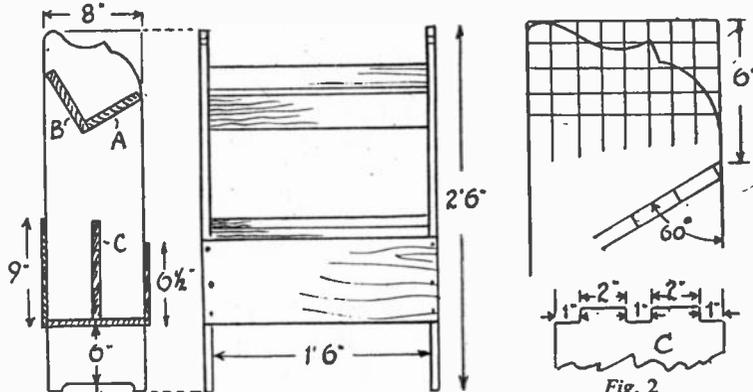
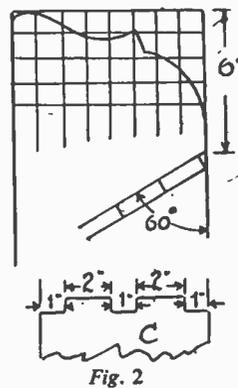
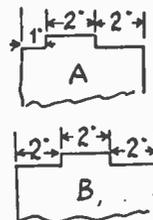

Fig. 1
Fig. 2
Fig. 3
Construction is quite simple, and within the scope of any handy woodworker. A side section and front elevation are given in Fig. 1, with dimensions. Cut the two side pieces to length and width given, and shape up the top and bottom parts. The top part is shown enlarged, and over 1 in. squares, in Fig. 2, so that copying the shape is rendered easier. About the best plan is to draw the squares on stout paper, trace the design, and cut out. Then the pattern can be laid on each side in turn, and a pencil run round to mark its shape on the wood, and get both sides alike. A bow or keyhole saw will do the cutting quite easily.
The two boards (A) and (B) comprising the book trough, are tenoned into the sides, also the bottom vertical division in the rack. These parts are cut to length, plus the length of the tenons, which should be $\frac{1}{2}$ in. more than the thickness of the sides, so that they will project that amount outside. Fig. 2 (C) shows the division ends, and Fig. 3 (A) and (B) the ends of the book trough. Cut these tenons accurately, to ensure a good fit across. The necessary mortises in the sides must also be true to size, to leave no ugly gaps in the work afterwards.
To mark the mortises for the book trough, draw a line, starting at 6 ins. down from the top, and sloping towards the bottom at an angle of 60 degrees, as shown in Fig. 2. Now place piece (A) on the line, in its correct position, and pencil round the tenon, as before. Cut out, then fit (A) in its mortise, place (B) against it, at right angles, and pencil round the tenon on
The sectional view shows these parts. Cut the bottom from similar thickness wood to the rest and nail across, both to the sides and middle division. The front and back parts, the widths of which are given in Fig. 1, can be cut from ply-